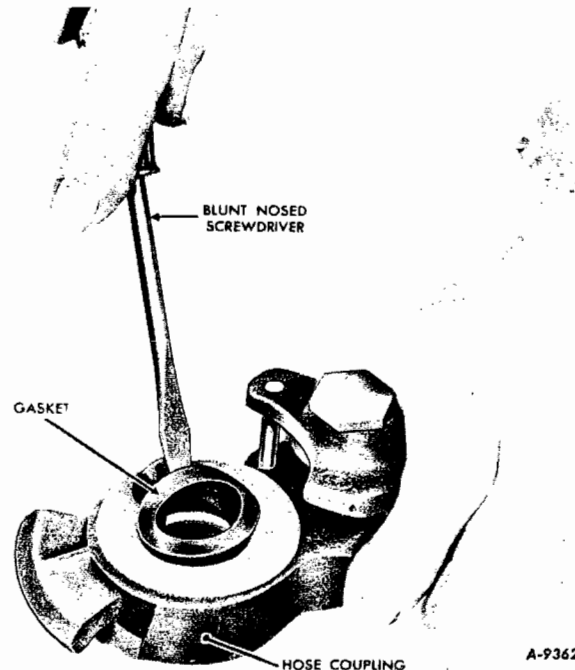

Fig. 24
5. Then use a blunt nosed screwdriver or similar instrument to push the gasket into place (Fig. 24). When properly installed, the exposed face of the gasket will be flat, not twisted or bulged at any point.